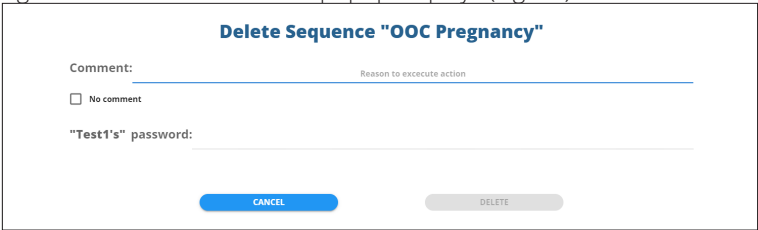

Fig. 74—Use this popup to name your sequence.
2. Click on the delete icon  in the bottom right corner of the window. A popup displays (Fig. 74).